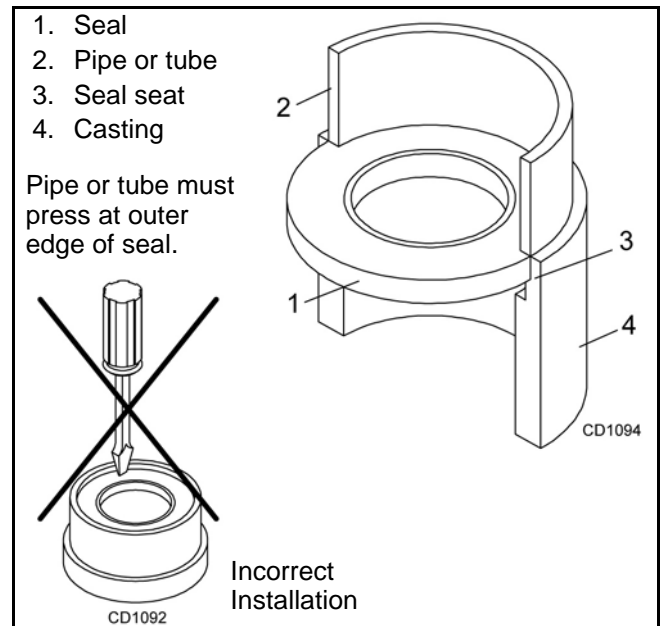

Figure 9. Seal Installation
2. Remove vent plug (27), Figure 9, and siphon gear lube from housing through this opening.
- If the leak occurred at either end of horizontal shaft, remove oil cap (11) and/or oil seal (1). Replace with new one (see Seal Replacement, page 25).